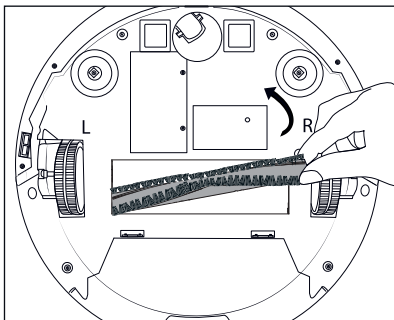

Fig. 15
- ◆ Grasp the rotary brush **16** on the right-hand side, and remove it from the appliance (see Fig. 15). Remove hair and dirt with the cleaning brush **10**.